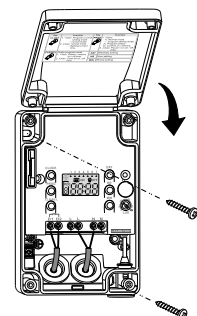

Fig.2
1. Flat against a wall, using 2 assembly screws (Fig.2)